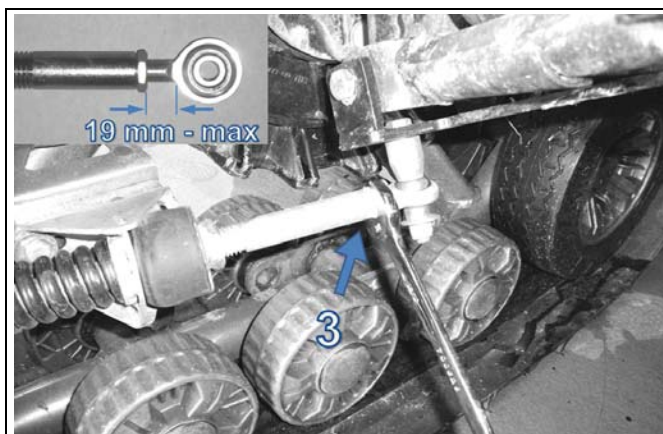

Figure 15
NOTE: In some rare cases where the adjustment of the nut (item 2 on Figure 14) compressing the spring is near the end of the threaded rod, extend the rod by unlocking the jam nut (item 3 on Figure 15) and unscrew the rod to obtain 19 mm max. of visible threads. Re-tighten the jam nut.